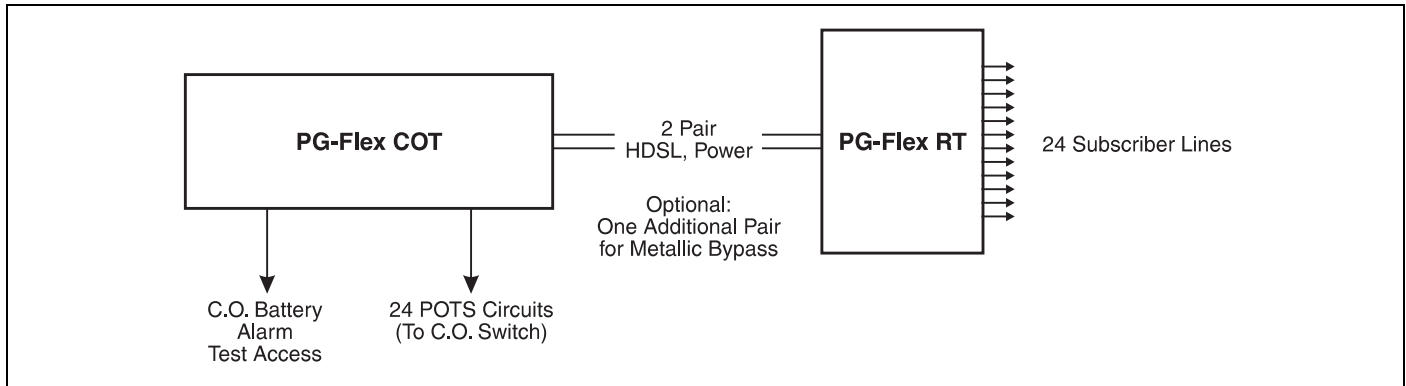

Figure 2. Typical PG-Flex Configuration.
2.02 System Flex Configuration. A PG-Flex system, shown in Figure 2 consists of:
- Remote Terminal (RT). The RT Enclosure provides a weatherproof housing for the PG-Flex remote electronics and subscriber terminations. The enclosure accepts one common RT Line Unit and up to four Channel Units.
2.05 For the system configuration shown in Figure 2, the maximum distance between the COT and the RT is 12.3 kft (3.8 km), assuming the HDSL lines are 24 gauge. Table 1 shows the maximum distance between the COT and RT for various gauge wire. Due to the nature of HDSL transmission technology, the HDSL lines do not require any special conditioning and may include unterminated bridge taps, but cannot include load coils.